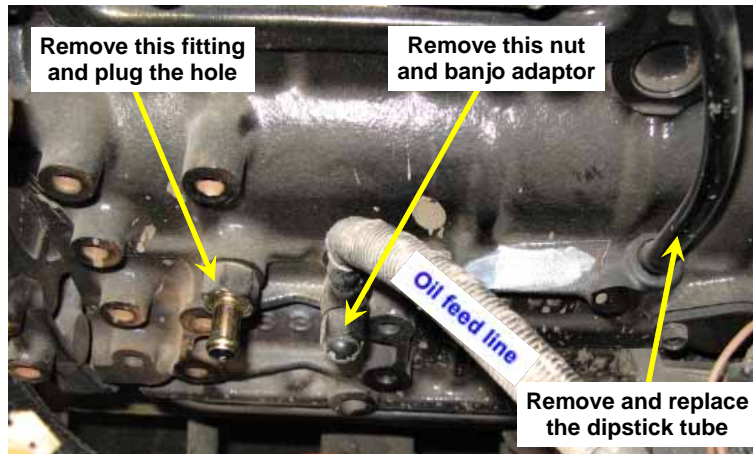

Figure 4 Vacuum Pump Oil Line Fittings
- (1) Remove the rubber vacuum pump oil return hose (Table 2, Item 19) from the hose adapter fitting in the block. Remove both hose clips from the old hose and retain them for later use.
- (2) Remove the oil return hose adapter fitting (Table 2, Item 20) and the old copper washer (Table 2, Item 21) from the block (see Figure 4). Discard the copper washer. Apply a small amount of thread sealer to the filler plug (Table 1, Item 7) and then fit the plug and a flat aluminium washer (Table 1, Item 89) to close the oil return hole.
- (3) Remove the vacuum pump oil feed line (Table 2, Item 22) and the straight banjo adapter fitting (Table 2, Item 23) from the block (see Figure 4).
- (4) Apply a small amount of thread sealer to the elbow union (Table 1, Item 9) and then fit the elbow into the oil feed hole in the block. Position the elbow outlet facing upwards and at a 45 degree angle to the rear, apply a small amount of thread sealer, and then fit the new vacuum pump oil feed line (Table 1, Item 10) to the elbow.